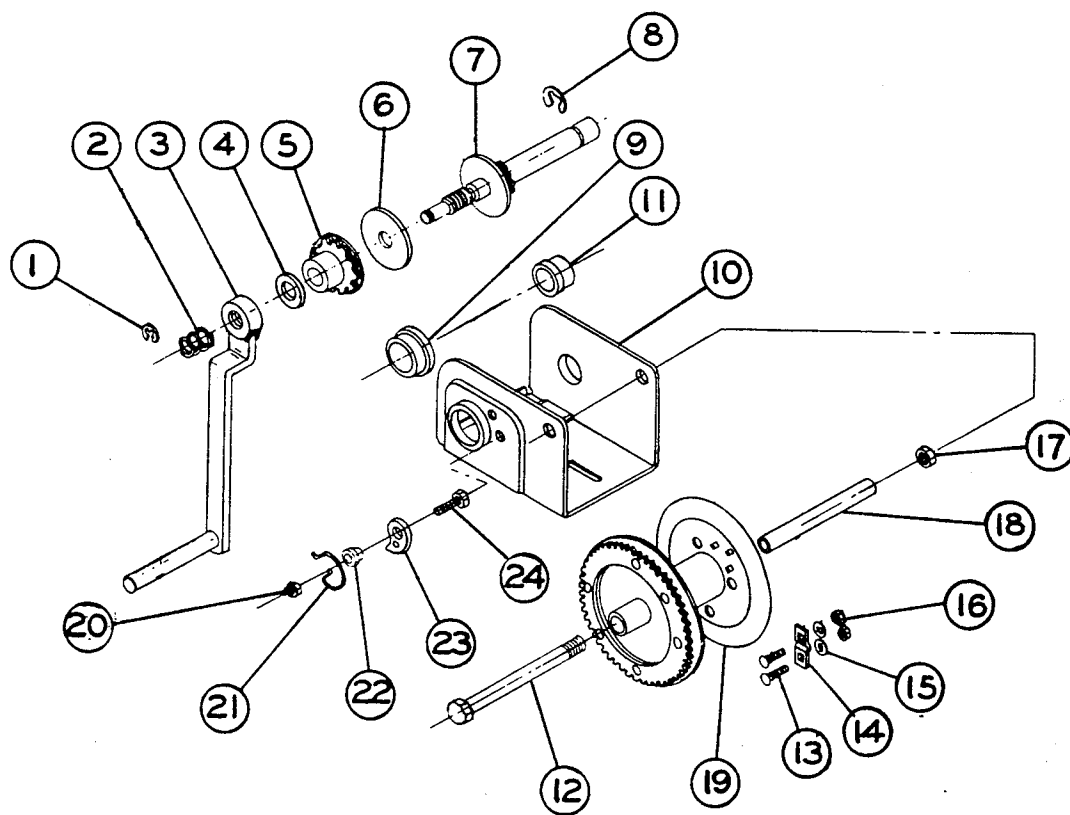

FIG. 6-4
2. The MS-20 LIR structure base has a winch attached to it. This winch should be lubricated as follows: All gears should have a film of grease on them. Use a good grade of lithium grease. The following parts (See Fig. 6-4) should be wet with oil at all times; 2 bushings (Items 9 & 11); both ends of the drum shaft (Item 18); the ratchet pawl (Item 23); threads on pinion shaft (Item 7); steel handle disc (Item 4). Use a good grade of light machine oil (10 w). Perform a brake disc inspection to check the wear on the brake discs (Item 6). To physically measure the wear on these parts, they must be removed from the winch. Tools required for the brake disc inspection are: one 1/2" combination wrench, one 9/16" combination wrench, one adjustable crescent wrench and one flat blade screw driver. Remove the drum assembly by disassembling the drum bolt (Item 12) and nut (Item 17). Remove the handle (Item 3). Remove the retaining ring (Item 8). This will allow the pinion shaft (Item 7) to be disassembled and the brake disc removed for inspection. Measure the disc for wear and if it is worn to less than 1/16 of an inch thick, replace it. Do not get oil or grease on the fiber brake disc faces (Item 6). The winch may be reassembled by reversing the procedure for disassembly. Care must be taken to insure that all parts are installed correctly for proper operation. A brake face kit, or a new winch, may be ordered through Jaquith Industries Inc., see Section 8 for ordering information.